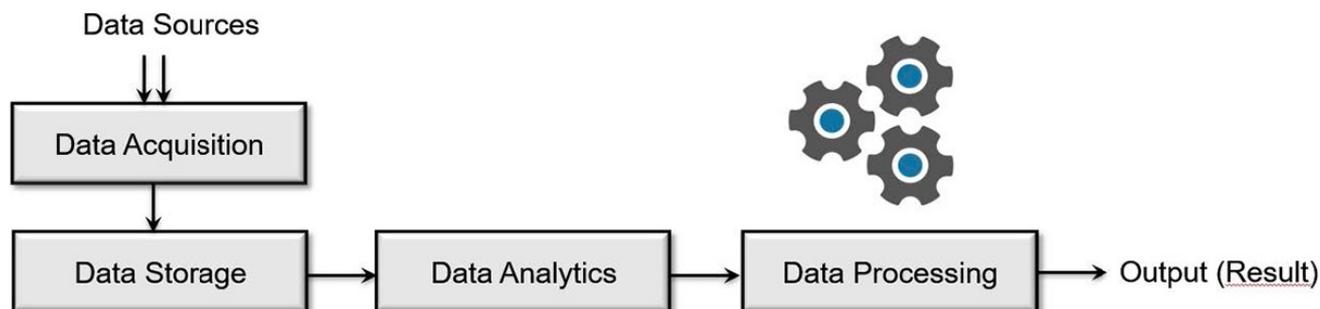

Figure 2: A simplified example of a data processing system (Source: Softing Automotive)
- Data has no value unless it is acquired, stored, decomposed, analyzed, converted, and processed. Figure 2 shows a simplified example of a data processing system.